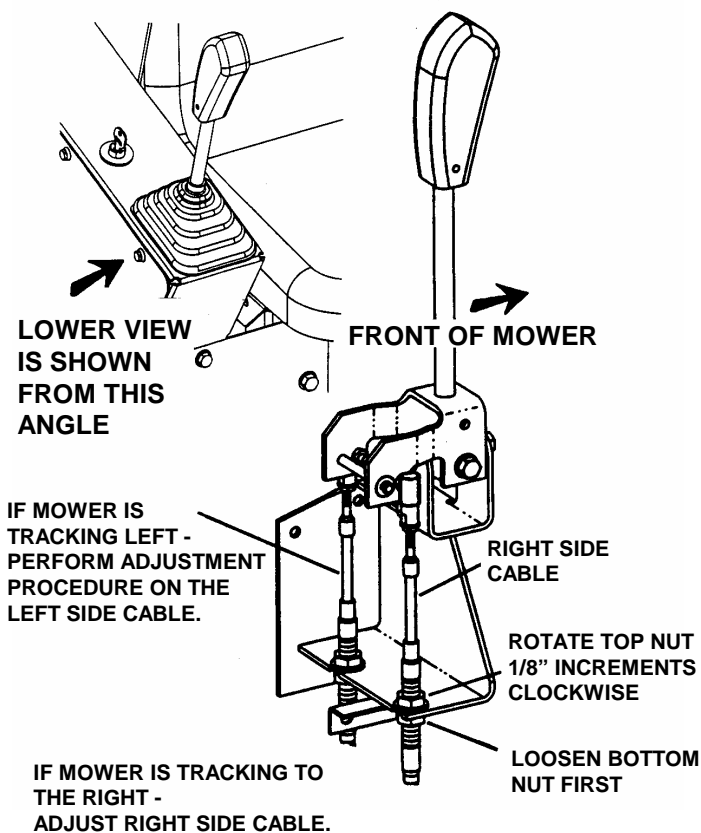

FIGURE 4.1
1. If mower tracks to the right, loosen bottom nut first on the right cable. Turn top nut clockwise in a 1/8 increment then retighten lower nut to secure cable. Check tracking of mower. Repeat this adjustment if necessary. See Figure 4.1.
2. If mower tracks to the left, loosen bottom nut first on the left cable. Turn top nut clockwise in a 1/8 increment then retighten lower nut to secure cable. Check tracking of mower. Repeat this adjustment if necessary. See Figure 4.1.